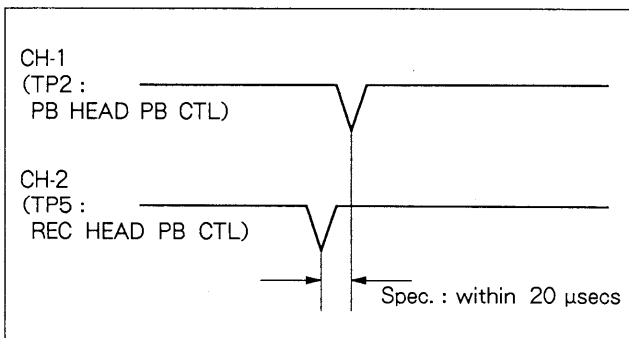

Fig. 9-10-2. 2-Frame Distance Check
3. Thread the blank tape. Forward the tape more than 30 seconds (actual time) with FF mode, then make recording about 5 minutes. Play back the recorded portion and check that the phase difference between CH-1 and CH-2 is within the specification shown in Fig. 9-10-2.
3. While pushing the audio PB head in the arrow A direction, move it right and left and adjust so that it is within the specification shown in Fig. 9-10-2.